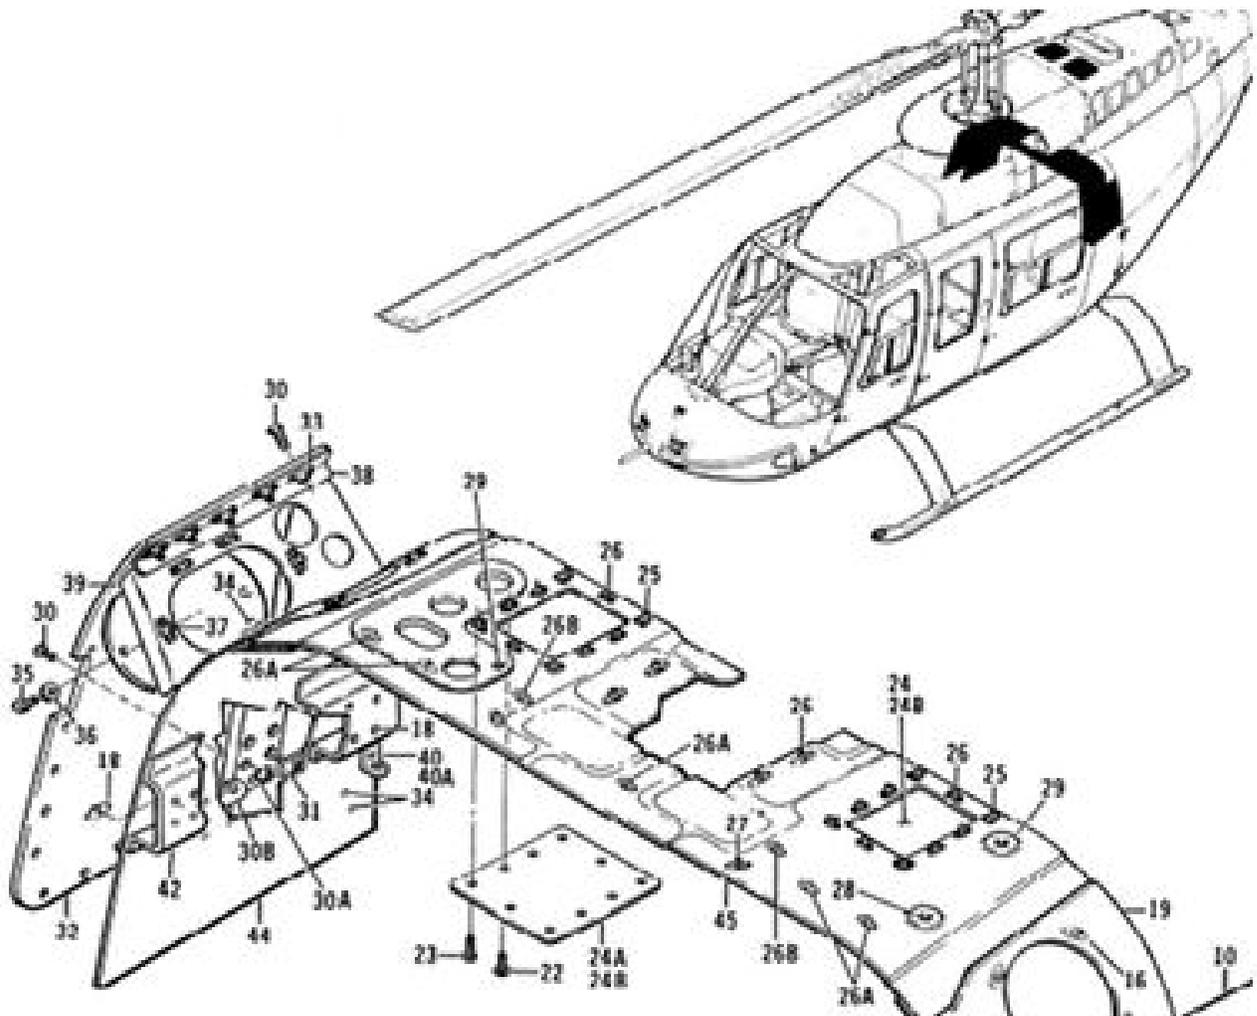

Figure 1
During parts of the progressive inspection, opening of the door assemblies identified in Figure 1 (items 24, 24A, and 24B) is required to inspect the most aft hardware of the pylon support assemblies for the transmission and the forward engine mount fuselage structure. However, there are currently no specific Service Bulletins or Notices to inspect this area. Access to conduct a thorough inspection can also be limited by the size of the opening. The Bell 206L Maintenance Manual and Structural Repair Manual do not include specific damage assessment criteria or repairs for this area. Transport Canada has issued Civil Aviation Safety Alerts(CASA) No. 2019-05 to raise awareness of a potential crack in the fuselage frame/bulkhead going undetected during a scheduled maintenance inspection. The CASA is available at <https://www.tc.gc.ca/eng/civilaviation/opssvs/cracks-fuselage.html>.
1. Each time the left and right hand door assemblies identified in Figure 1 (items 24, 24A, and 24B) of this SAIB are removed, inspect the entire internal structure of FS 142.7 to FS 155.00 for smoking and working rivets and for cracks. For areas with limited access, the use of a mirror and flashlight as an aid in the visual inspection is recommended. A borescope could also be used.